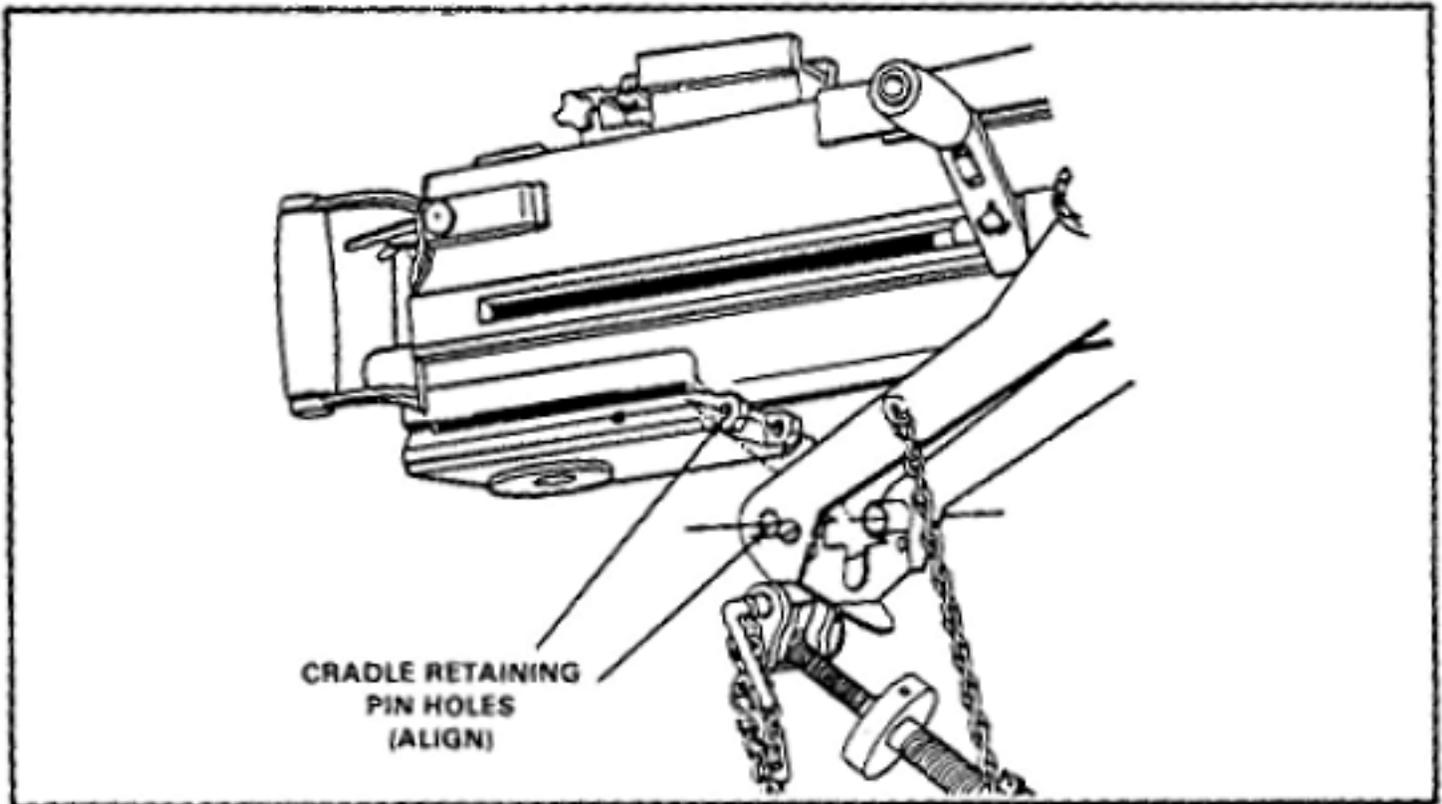
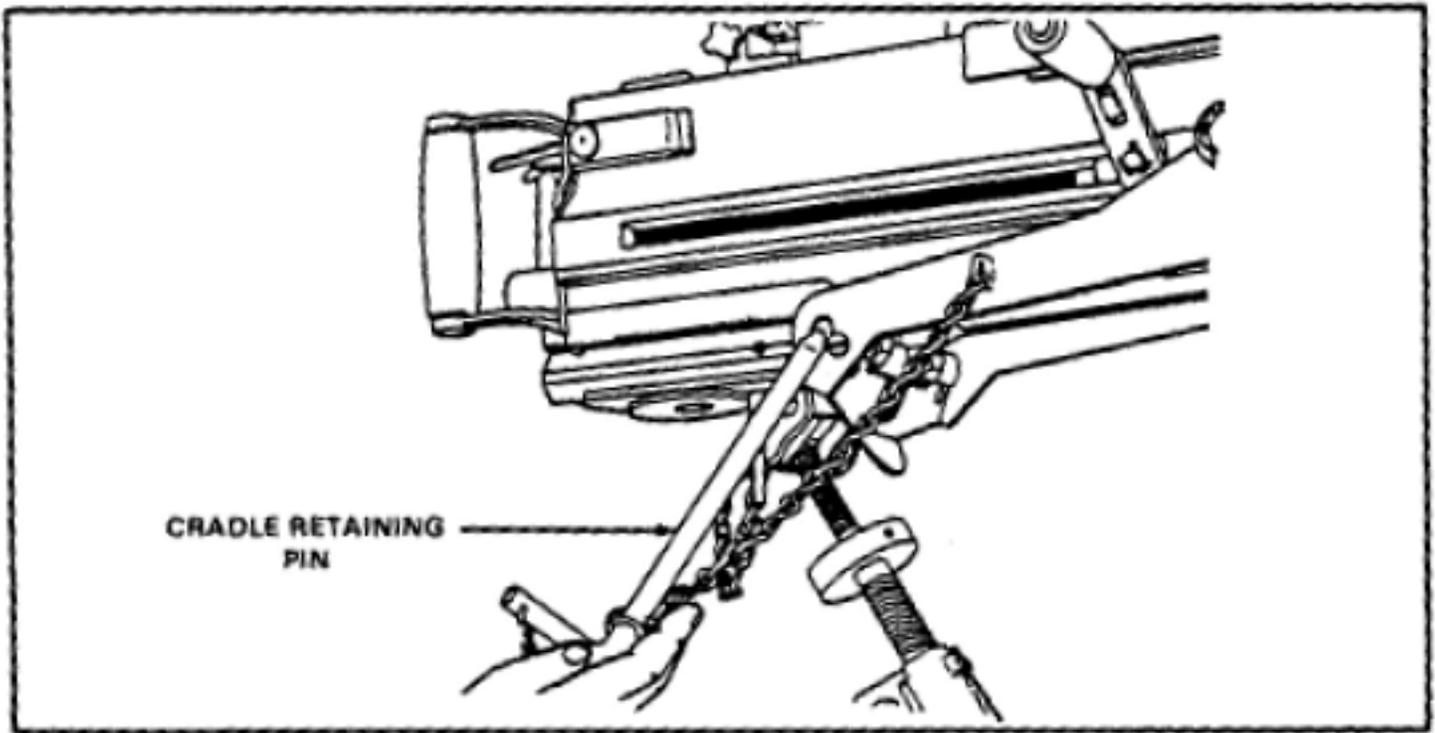

Figure 3-9. Alignment of the sear assembly and pin holes.
Figure 3-10. Insertion of the cradle retaining pin.
(3) Align the sear mounting holes with the gun cradle mounting holes (Figure 3-9). Secure the rear of the weapon by inserting the retaining pin through the cradle and sear assembly and rotate it until it locks in place (Figure 3-10). If a safety clip is attached, use it to secure the retaining pin.